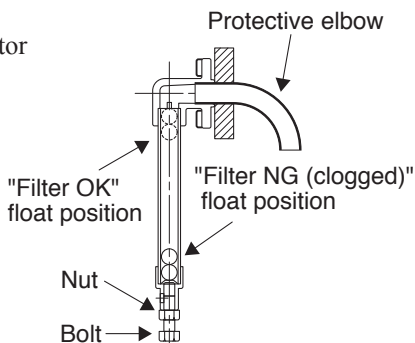

Fig.16 Structural diagram
- ① Loosen the Mistresa's duct companion flange stops (4 locations), then detach the duct companion flange.(On models CRD-H and CRH-H, the duct phase flange is removed when installing the chip separator adapter.)
- ② Release the chip separator's corner clamps (2 locations), then extract the filter with frame.
- ③ Position the chip separator's chip outlet port toward either the left or right, then insert a packing between the chip separator and the Mistresa and secure with bolts (the chip separator's front and rear mounting holes are the same size).
- ④ Place the duct companion flange (with packaging) which was detached from the Mistresa, then secure with bolts and nuts. (For the CRH series, insert packing between the duct companion flange and the Mistresa.)
- ⑤ With the wire screen side positioned at the downstream (main unit side), insert the filter with frame into the chip separator, then attach the cover. (For 3CS-□□□M, attach the cover to face the clogging status indicator as shown in Fig. 16 on page 8.)
- ⑥ Insert the drain tube into the drain pipe, then secure it with the hose band. Take care to avoid bending the drain tube, and be sure to **seal** (liquid seal) its end.
As shown in Fig.16, the float position should be checked when the power is turned ON. The upper part of the float is red and the bottom part is green. When the filter is in good condition (not clogged), the float's green part is visible. When clogged, the red part is visible.
a Loosen the Fig.16 nut.
b Adjust the Fig.16 bolt as follows: